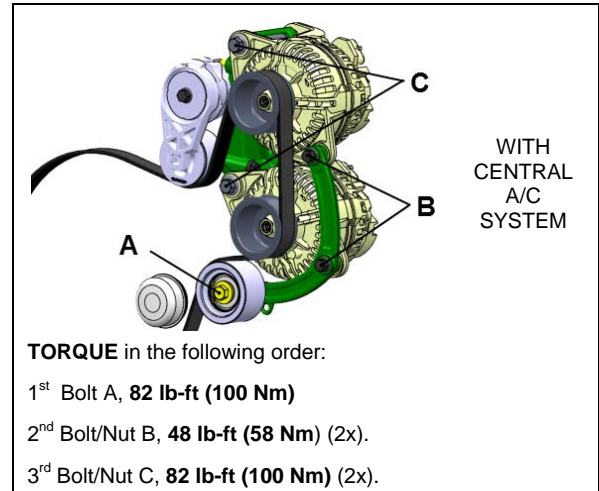
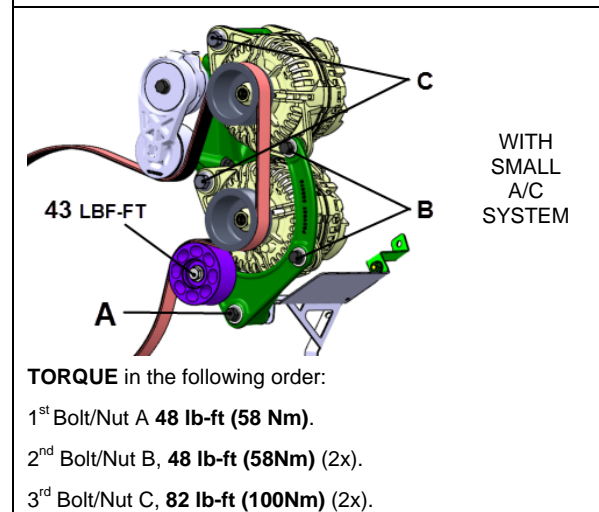

Figure 39: ALTERNATOR MOUNTING, TIGHTENING SEQUENCE – CENTRAL A/C SYSTEM
FIGURE 40: ALTERNATOR MOUNTING, TIGHTENING SEQUENCE – SMALL A/C SYSTEM
6. In order to assure installation, it is important to tighten the alternator mounting bolts in proper sequence. (Figure 39 & Figure 40).